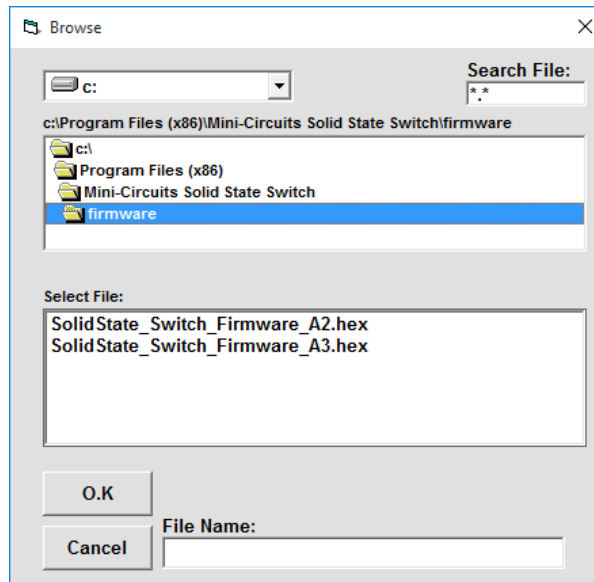

Figure 3.3.5: Firmware - Browse Window
3.3.5 **A browse window will open to the firmware directory** under the path you selected when installing the GUI program (See Fig. 3.3.5). Navigate to where you saved your firmware file, Select the firmware version you wish to install and click 'O.K'.